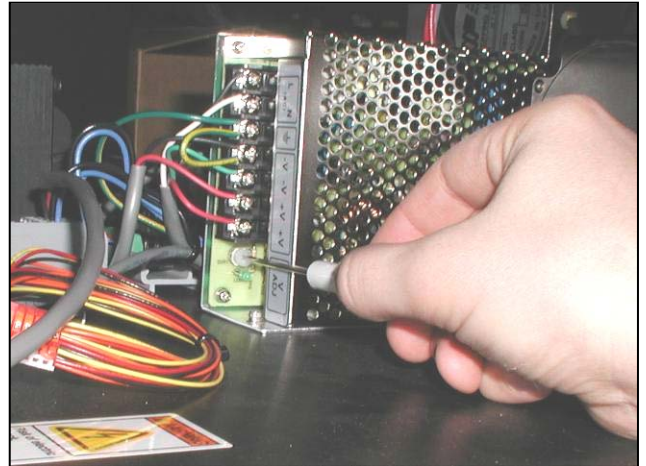

Figure 3-37. Adjusting Power Supply Voltage
12. With one hand, position a small screwdriver on the voltage adjustment POT (Figure 3-37).